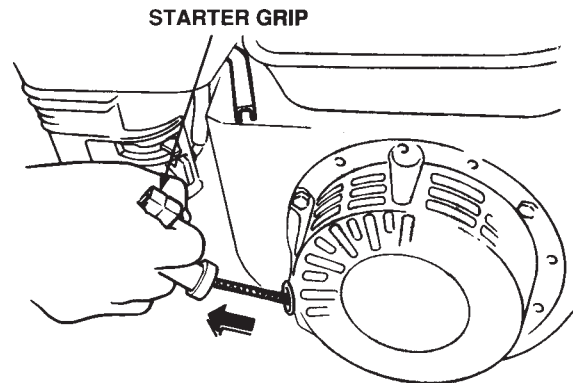

Figure 15. Starter Grip
5. Grasp the starter grip (Figure 15) and slowly pull it out. The resistance becomes the hardest at a certain position, corresponding the compression point. Rewind the rope a little from that point and pull out sharply.
- Grasp the compactor's hand grip (Figure 15), and move the engine throttle lever quickly from the **turtle** position (idle) to the **rabbit** position (full throttle) position.
- To make the compactor move in the forward direction push the travel lever (Figure 15) forward.
- To make the compactor move in the reverse direction pull the travel lever (Figure 15) backwards.